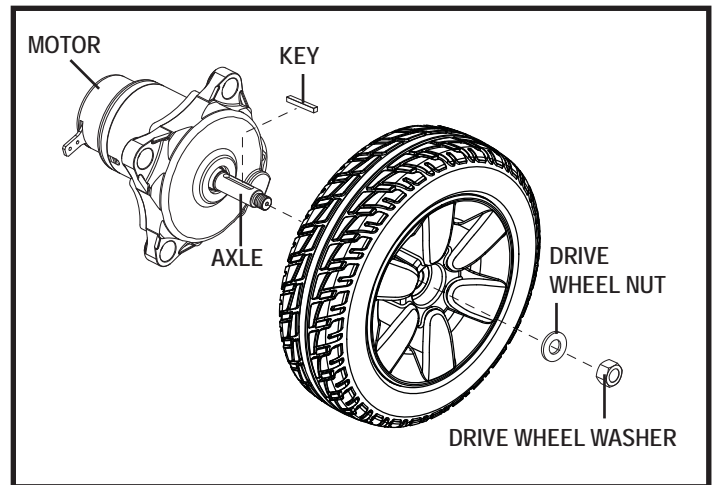

Figure 14. Drive Wheel Removal
5. Remove the hub cap, if equipped. **See figure 14.**
6. Remove the drive wheel nut and washer from the axle. **See figure 14.**
12. Reinstall the drive wheel nut and washer onto the axle and tighten. **See figure 14.**